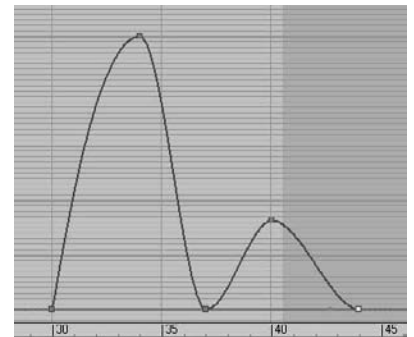

Figure 8.64
5. Add a little wobble to the target to make the animation even more interesting. This can be done very easily in the Curve Editor. Select the Y Rotation of the target to display just that curve. Use Add Key to add two keyframes at frames 40 and 44. Using the Vertical Move tool, give the key at frame 40 a value of about 1.7. Your curve should resemble the one in Figure 8.64.